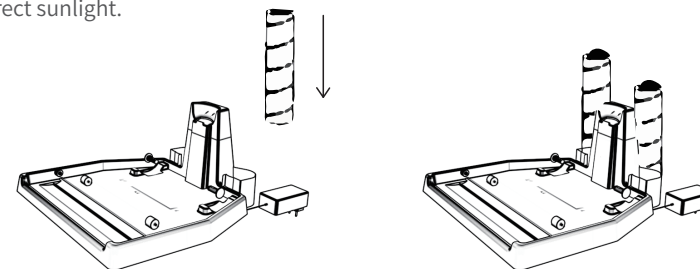

Fig.19
4. Activate the Auto dean" function by following the operation as above to clean the roller brush, then remove the roller brush by followi ng the reverse operation mentioned in the section of "FNSTALLATION FOR THE ROLLER BRUSH". And then store the roller brush at the corresponding position of the charger (see Fig.19). The appliance should be stored at a place with good draft and without exposure to the direct sunlight.